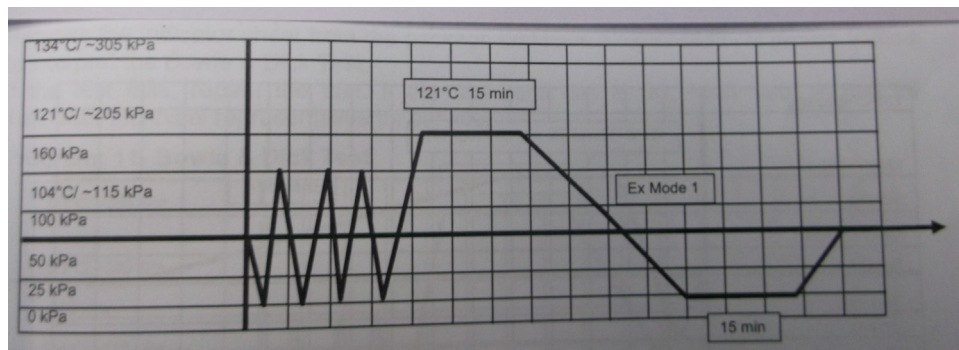

Figure 1 Steam sterilizer vacuum pump depth up-to 25 kpa.
- 1) A reading (printout) of 25 kilopascals (KPa) on a pressure gauge in post sterilization, that means some moisture (25% of water in gas form) is still remain inside the container that cannot be removed by vacuum pump (Fig. 1).